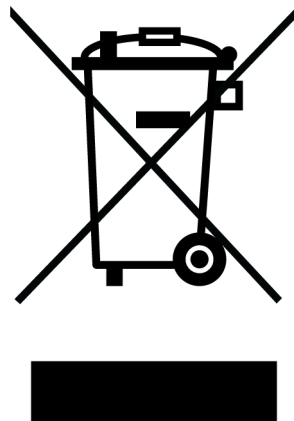

Figure 13 **Crossed out 'wheelie bin' symbol**
- marked correspondingly with the crossed out 'wheelie bin' logo (see Figure 13)